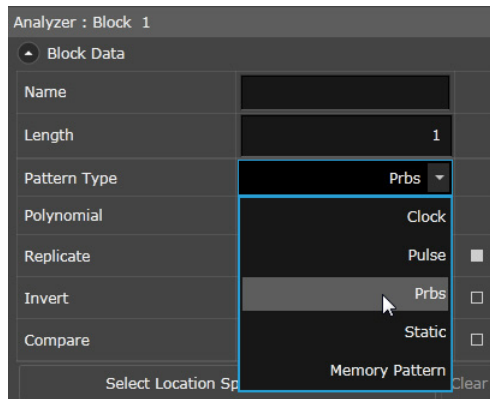

Figure 39 Select Pattern Type
- a In the **Block Data** properties, select **Prbs** as the **Pattern Type** as shown in Figure 39 on page -90.